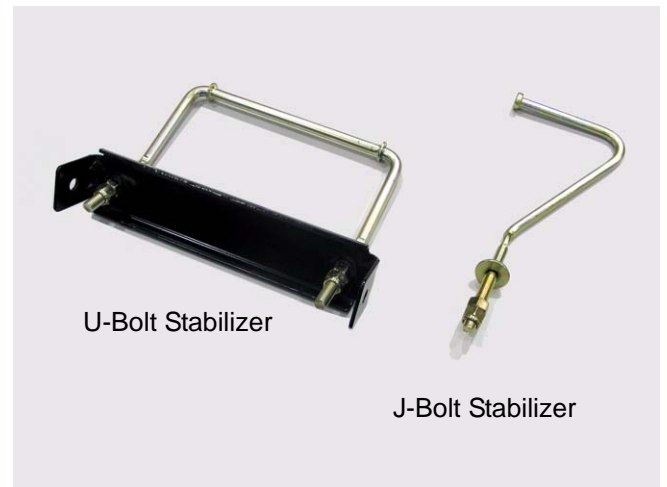

Figure 14.10
- 14.10. There are two types of stabilizer rods. A U-bolt type and a J-bolt type. See Figure 14.10.